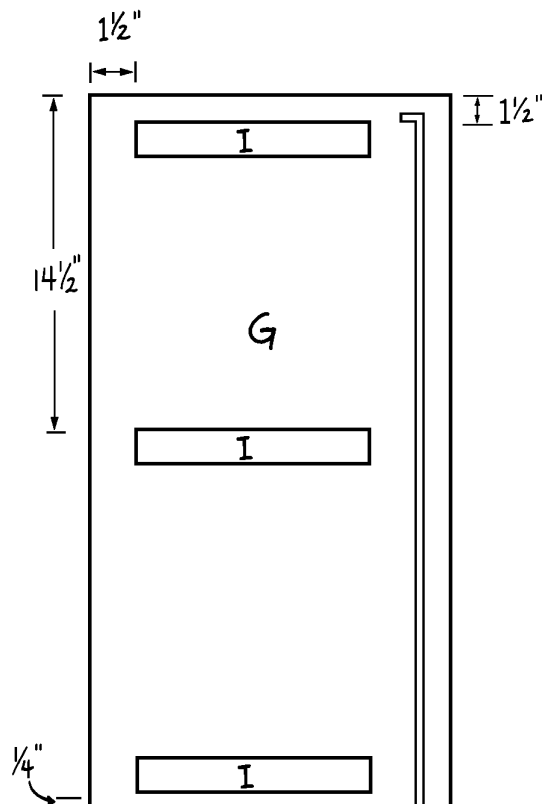

Figure 7
12. Using Figure 7 as a placement guide, glue three of the inner supports (I) to one side (G). Position the first inner support (I) 1-1/2" from the upper end of the side (G); the second inner support (I) 14-1/2" from the same end; and the third inner support (I) 1/4" from the bottom end. Note that all three supports (I) should be 1-1/2" from the front edge of the side (G); they do not cover the dado at the back edge.
13. Repeat Step 11 to attach the remaining three inner supports (I) to the other side (G).